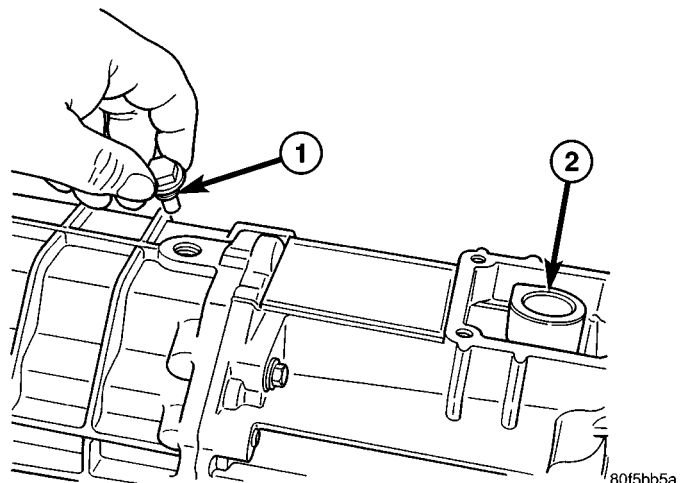

Fig. 6 SHAFT LOCK BOLT
(6) Remove shift shaft lock bolt (Fig. 6) located just forward of shift tower.